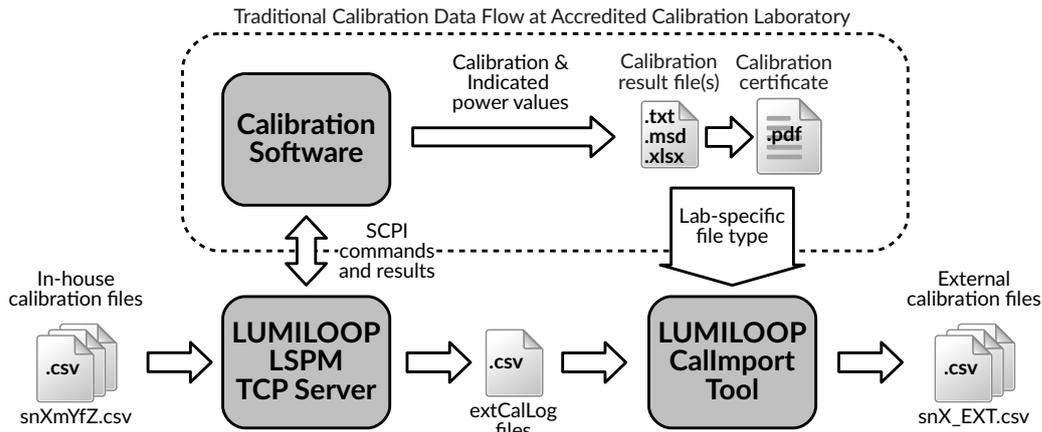

Figure 101: Enhanced calibration data flow
As shown in Figure 101, LUMILOOP has enhanced the calibration data flow by supplying the calibration data import tool *CallImport* as part of the LUMILOOP Installer. CallImport automatically generates checksum-protected CSV files for the LUMILOOP TCP Server. These correction factor (CF) files contain the correction factors for each frequency and antenna (LSProbe) or measurement channel (LSPM) in decibel (dB). Multiple correction factor files can be generated to accommodate different calibration field-strengths (LSProbe) or reference power levels (LSPM) and additional modes.